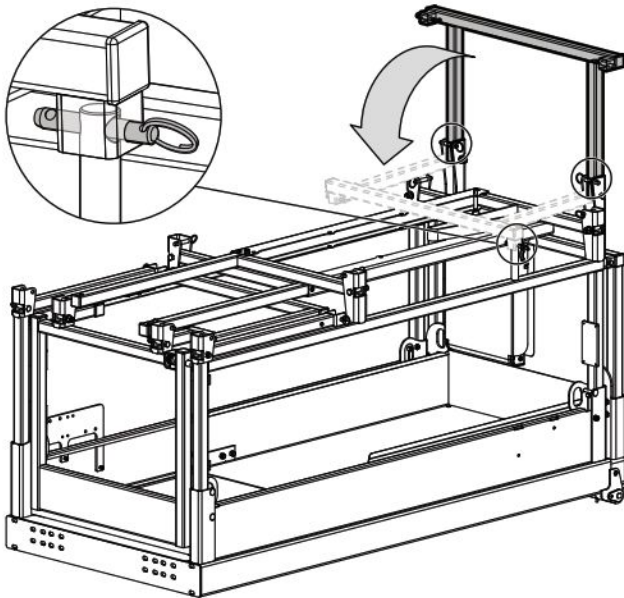

**Figure 17** Left and right guardrail folded
21. Hold the vertical bar of the extension guardrail with one hand, and then fold the left guardrail with the other hand (refer to Figure 17 for hand positions).
25. Hold the vertical bar of the extension guardrail with one hand, and then fold the right guardrail with the other hand. Refer to Figure 17 for hand positions.